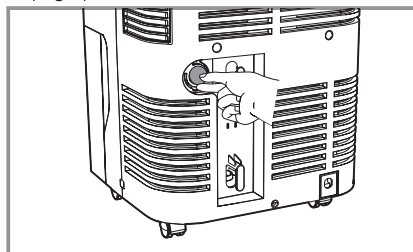

Fig.1
1. Retire la tapa "GRAVITY DRAIN" (DRENAJE POR GRAVEDAD). (Fig.1)